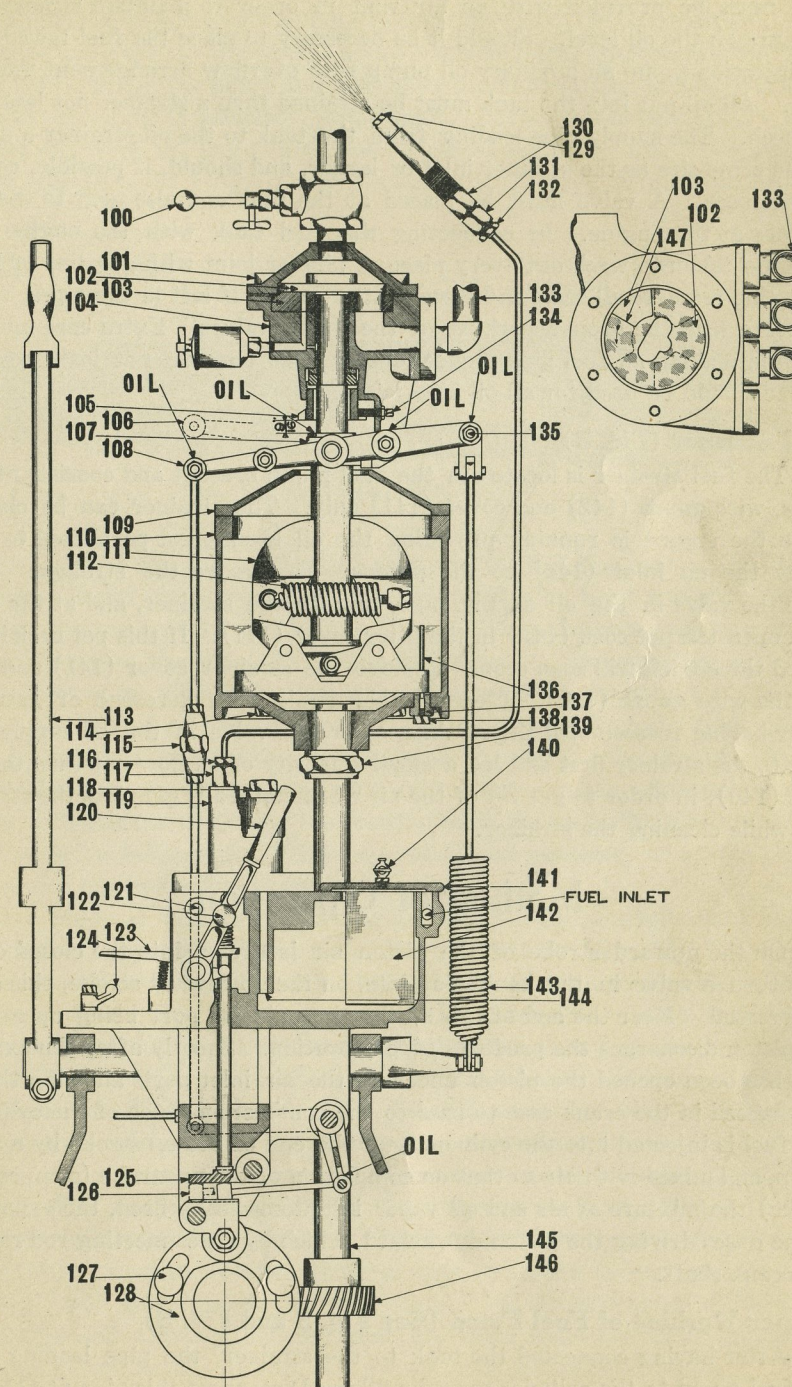
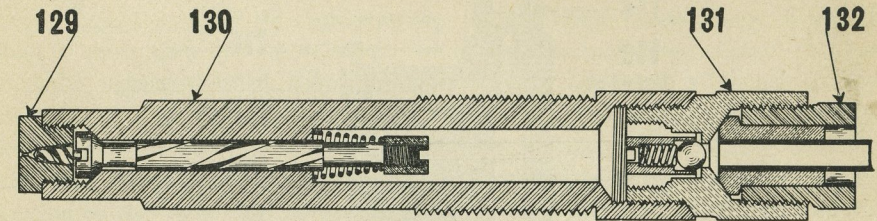
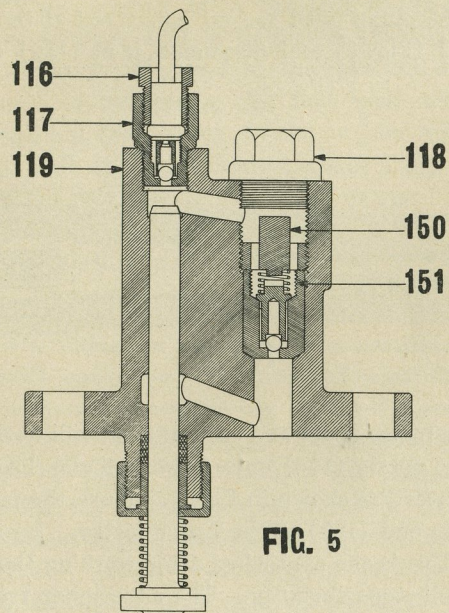

FIG. 3
FIG. 4
FIG. 5
The fuel tank must be securely fastened in the boat and placed high enough to insure a good flow of oil to the injection pump (119; Fig. 3). The
### Fuel Strainer (Fig. 3)
### Proper Working of Fuel Pump (See Fig. 3 and Fig. 5)
After having connected the tank to the strainer, the pipe leading from the fuel pump to the cylinder must be filled. Disconnect this pipe at (116) at the pump (Fig. 3). Put the lever (120) into the position shown. With the
handle (123) work the pump plunger up and down until the oil comes out at the discharge valve (117). Should the pump refuse to work, unscrew the discharge valve (117), prime the pump and hold your thumb over the outlet. Work the pump as before and if necessary, prime again. Put discharge valve (117), back in place and work the pump until the oil comes out at the top. Connect discharge pipe at (116) (Fig. 5) and disconnect it at (132) (Fig. 4) at the fuel
injector. Work the pump again and soon the oil will flow over at the end of the pipe. Screw the nozzle (130) out of the cylinder head and put it into a position pointing upward as shown in Fig. 3. Work the pump again until the oil squirts out at the end (129) of the fuel injector. Be sure that all air is pumped out of it. This is the case when after working the handle (123) with a jerk, the flow of oil stops abruptly. The oil coming from the fuel injector must be in the form of a very fine spray and no heavy core should be in the center of the spray. If a heavy core exists clean out the whole nozzle thoroughly with gasoline especially the small spiral in the tip (129), also make sure that the valve holds tight. These operations are necessary on all the pumps in case of a multiple cylinder engine.
One essential feature of the engine, which for best results must always be in perfect mechanical order, is the fuel pump (119) (Fig. 5). To examine the pump, unscrew the pipe gland (116) and hold your thumb over the opening, or better, screw a plug into the opening. If you are able to move the plunger quite easily by means of the handle (123), it is a sign that one or all of the pump valves are leaky, or else there is air in the pump. If there is no air in the pump, and if the valves are tight, the oil has no other way to escape except along the pump plunger and therefore the plunger moves hard and only slowly. If it becomes necessary to remove the suction valve proceed as follows: The pump is shown in Fig. 5. Unscrew the plug (118). Then by means of the special socket wrench furnished with the engine, unscrew the plug (150). Turn the socket wrench around and screw its end into the valve seat (151) and pull it out of the pump body. Be sure and clean all the parts thoroughly and convince yourself that the valve seats are tight before you re-assemble the parts. Be sure and screw all the plugs down tight.
### To Time the Oil Injection (See Fig. 3)
(See Fig. 3)
### To Adjust the Governor (Fig. 3)
### (Fig. 3)
### Air Starting Valve (Fig. 3)
The air starter disc is driven by spiral gears. Two teeth of the crank shaft gear, and one tooth of the vertical shaft gear, carry center punch marks. If the gears are taken apart, make sure, in reassembling, that the marked tooth of the vertical shaft gear goes between the two marked teeth of the crank shaft gear. These gears run in oil but nevertheless they will wear slightly in time. This necessitates an adjustment of the air starter valve. It is important that the disc (102), which has one slot, and is driven by the vertical shaft, begins to open up one of the slots in the stationary disc (103) when the piston in the cylinder to which the stationary slot is connected is exactly at its upper dead center. To time the air starter valve properly it is best to set the piston next to the reverse gear in its upper dead center. This is done by turning the flywheel until a  $\frac{1}{4}$ " hole drilled at the edge of the flywheel rim is directly opposite of a  $\frac{1}{4}$ " hole drilled into the side of the air compressor eccentric rod which faces the flywheel. If this is done, remove the air distributor cover (101) and move the stationary disc (103) around so that the edge (147) of the rotating disc (102) is just uncovering the port in the stationary disc (103) as shown in Fig. 3. Fig. 3 shows the arrangement for a three cylinder engine but the same rules apply for engines with more or less than three cylinders.
Make sure that the crank case has been drained by the drain cocks provided for this purpose. Assuming that the force feed oiler tank has been filled, disconnect the rod which connects the ratchet arm to the air compressor eccentric rod and move the ratchet by hand long enough to fill all the pipes leading from the oiler to the bearings and cylinder. Neglecting this may result in a hot bearing and serious damage right from the start. Replace the ratchet rod and oil both ends. When the oiler is provided with an auxiliary hand crank it is not necessary to disconnect ratchet drive to fill oil pipes by hand. This operation is only necessary when the engine is started the first time, or if it has been standing idle for a few days. Oil all the governor links and rods where the word "oil" is marked on Fig. 3.
Set the speed control lever (113) in its starting position, as far forward (toward the cylinder) as it will move. Pump about two strokes of fuel into each cylinder by means of the handle (123) or (120). Be sure that the lever (120) stands in the position shown in Fig. 3.
Now open air valve (100), Fig. 3, and keep it open until the engine fires and speeds up. Shut off the air and pull the speed control lever (113) slightly backwards to reduce the speed.
cylinder engine it is desired to shut off only one cylinder, the pump plunger may be raised up by means of the handle (123), and held so by means of the catch (124), Fig. 3. This, for instance, should be done if one of the combustion chamber caps gets cold. It would be unwise to flood the cylinder with oil while the cap is heated.